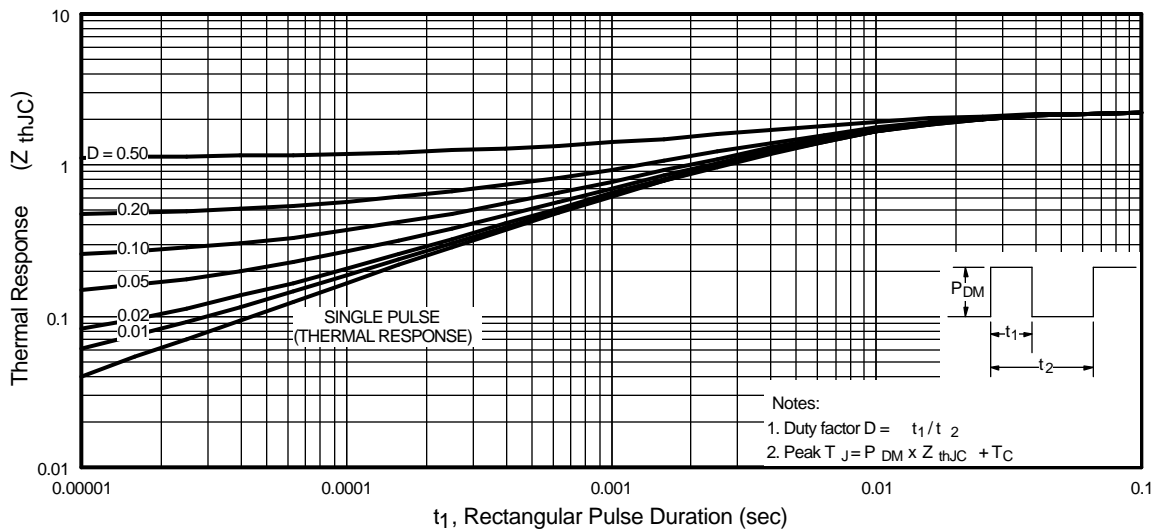

Fig 11. Maximum Effective Transient Thermal Impedance, Junction-to-Case
① Repetitive rating; pulse width limited by max. junction temperature. (See fig. 11)
② $V_{DD} = 15V$, starting $T_J = 25^\circ\text{C}$, $L = 470\mu\text{H}$